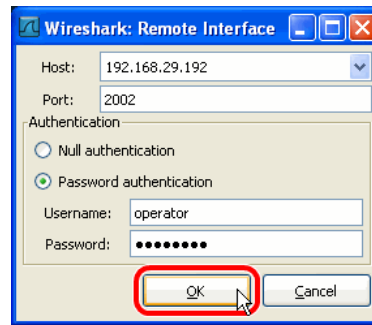

Figure 158: Wireshark Remote Interface Dialog.
4. Enter the correct settings for **Host** and **Port** (default 2002) and, if authentication is enabled, enter **Username** and **Password** in the corresponding fields as shown in Figure 158.